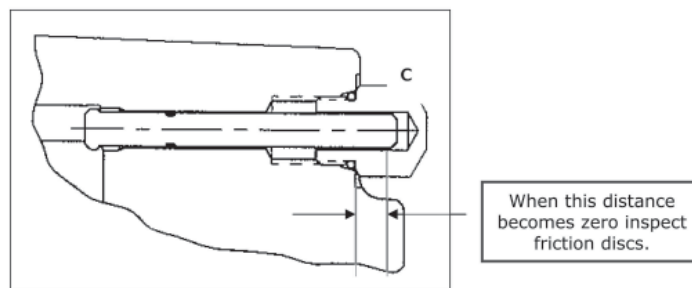

Figure 6-3 Wet Disk Brake Test
4. Inspect discs when wear pin becomes flush with the spotface (See Figure 6-3).